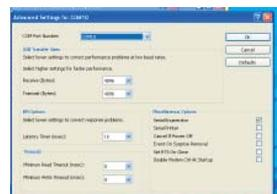

Figure 2B. Connection Error Box
Complete DataTrac Software features are only available when an active sample pump is connected to the PC (see Connecting the Pump to a PC). The SKC DataTrac Pump Manager window may be accessed without a pump connected to the PC; however, only limited features will be available (see Connecting the Pump to a PC, Connection Error Box, Figure 2B on page 5).
5. If connection is successful, the Leland Legacy Connection window will display a shaking hands icon (Figure 2A). Proceed to Step 6. If connection is unsuccessful, an error window will display (see box and Figure 2B on page 5).
If an error box displays during connection (*Figure 2B*), follow this procedure: